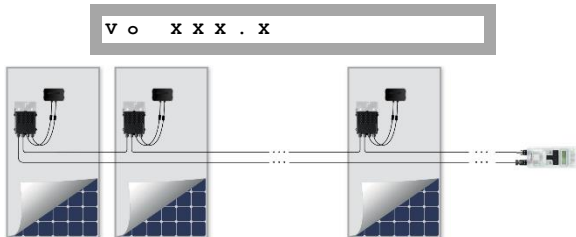

Figure 2: SolarEdge Key connection
- 3** Connect a string of power optimizers to the SolarEdge Key (see Figure 2).